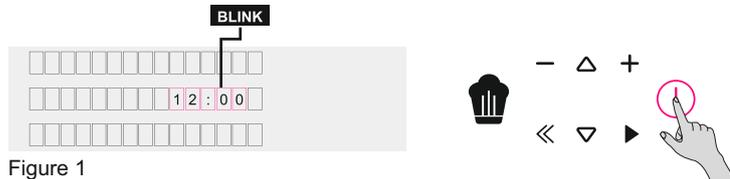

Figure 1
- At first launch you need to follow an installation process to be able to use the oven. Press ON/OFF to go ahead. (Figure 1)